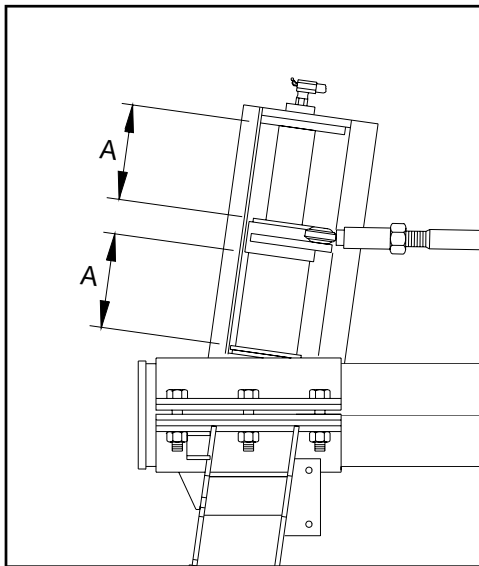

FIG 7.69
1. Adjust Hydra-Hug® suspension until dimensions above and below steering arm are equal (fig. 7.69, dim. A — See page 90).